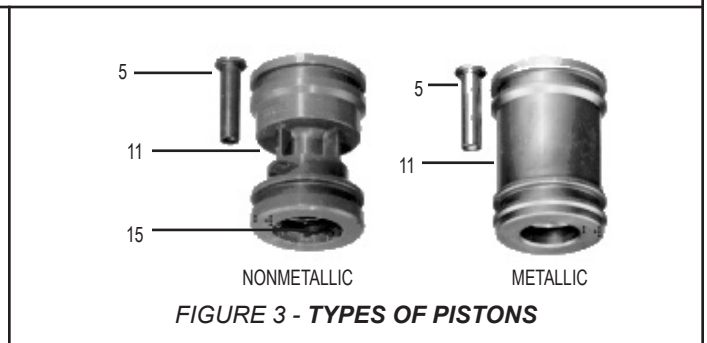

FIGURE 3 - TYPES OF PISTONS
6. Gently tap the open end of the valve body on a flat surface to remove the exhaust stem (5), the exhaust stem spring (6), and piston assembly (11). Items (5) and (11) may be made of metal or non-metallic material.
7. Remove and discard the two o-rings (8) on the piston O.D. and with a hooked wire. Remove and discard the o-ring (12) from the piston I.D. On the non-metallic piston, washer (13) and retaining ring (14) may be removed to facilitate removal of o-ring (12).
8. If the piston assembly is non-metallic (see *Figure 3*), with a small screwdriver carefully insert the blade of the screwdriver between the two of the ears of the retainer ring in the bottom of the piston (11) and pry retainer ring (15) out of the piston and discard. Remove inlet/exhaust valve spring (9) and the inlet/exhaust valve (10) and discard. If the piston assembly is metallic, disengage the inlet/exhaust valve spring (9) from the recess in bottom of piston (11). Remove the inlet/exhaust valve spring (9), and the inlet exhaust valve (10) and discard.
9. Remove and discard filters (7) from the unloader and reservoir ports in the governor body.